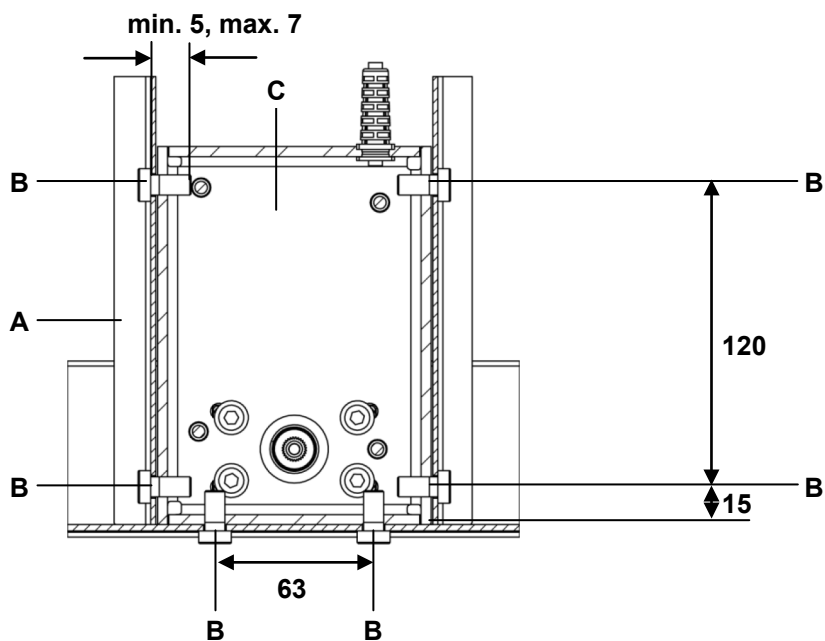
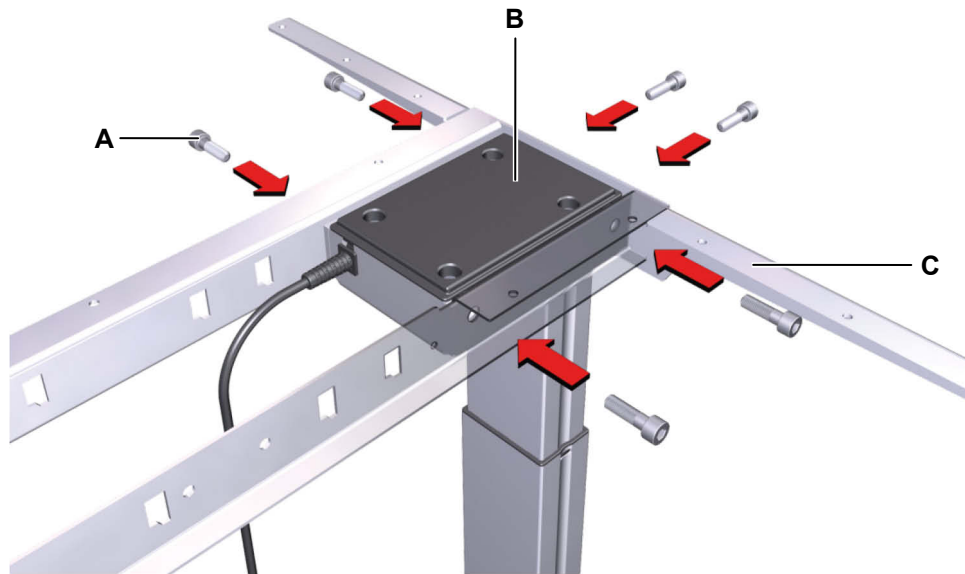

Figure 18 Mounting the table frame (dimensions in mm)
Figure 19 Mounting the table frame
- Use M8 bolts (with strength grade 8.8), as shown in Figure 18. The tightening torque must not exceed 20 Nm.
- 1 Set the table frame so that the holes are over the lifting column. Use six screws to attach the table frame to the motor housing of the DD11/DD21 lifting columns, as shown in Figure 19 (maximum tightening torque is 20 Nm). The mounting dimensions are shown in Figure 18.